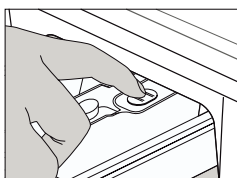

Fig. 15
- Press release lever on the inside of the drawer and pull it out. (Fig. 15)